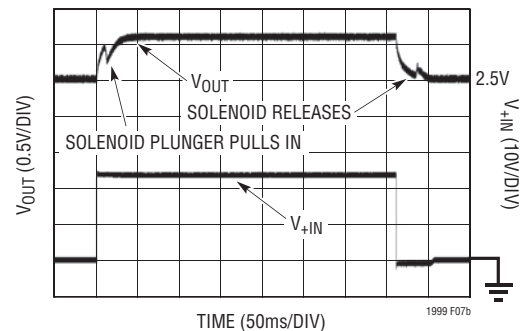

**Figure 7. Solenoid Current Monitor for Ground Tied Solenoid. The Common Mode Inputs to the LT1999 Switch Between  $V_S$  and One Diode Drop Below Ground**
The solenoid of Figure 7 consists of a coil of wire in an iron case with permeable plunger that acts as a movable element. When the MOSFET turns on, the diode is reversed biased off, and current flows through  $R_{SENSE}$  to actuate the solenoid. If the MOSFET is turned off, the current in the MOSFET is interrupted, but the energy stored in the solenoid causes the diode to turn on and current to freewheel in the loop consisting of the diode,  $R_{SENSE}$  and the solenoid.
Figure 7 shows the LT1999 monitoring currents in a ground referenced solenoid used when the coil is hard tied to the case, and is tied to ground. Figure 8 shows a supply referenced solenoid whose coil is insulated from the case. The LT1999 will interface equally well to either of these two configurations.
**Figure 8. Solenoid Current Monitor for Non-Grounded Solenoids. This Circuit Performs the Same Function as Figure 7 Except One End of the Solenoid Is Tied to VS. The Common Mode Voltage of Inputs of the LT1999 Switch Between Ground and One Diode Drop Above VS**